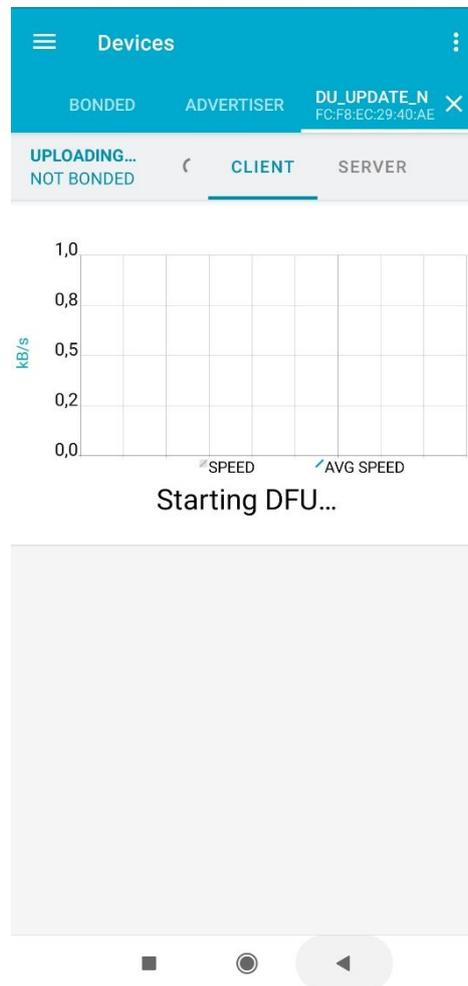

Fig. 10.7. DFU loading chart
8. If everything is done correctly, you will see the loading progress bar displayed as a line chart (Fig. 10.7.) Wait for the progress bar to reach the 100%